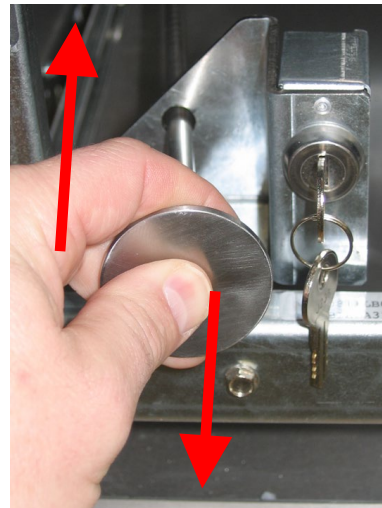

Figure 52
51. Move the dispose handle in and out ensuring it doesn't bind (see Figure 52). Ensure the handle is all the way towards the rear of the fryer when complete.